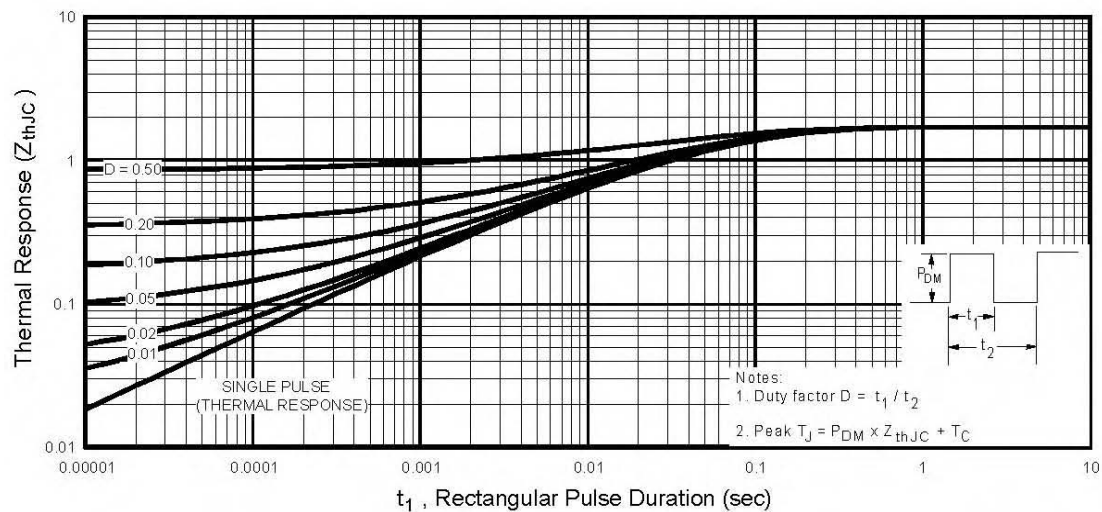

Fig 11. Maximum Effective Transient Thermal Impedance, Junction-to-Case
① Repetitive rating: pulse width limited by max. junction temperature. (See fig. 11)
③ $I_{SD} \leq 9.0A, di/dt \leq 120A/\mu s, V_{DD} \leq V_{(BR)DSS}, T_J \leq 150^\circ\text{C}$
⑤ $t = 60s, f = 60Hz$
② $V_{DD} = 25V$, starting $T_J = 25^\circ\text{C}$, $L = 2.4mH$